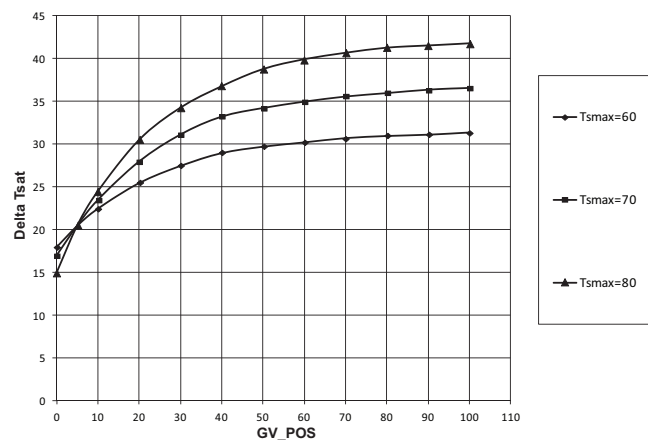

Fig. 37 — Effect of SURGE/HGBP DELTA TSMAX on Surge Prevention
- Surge/HGBP Delta T_{max} is the maximum difference between cooler and condenser saturation temperatures. (See Fig. 37.)